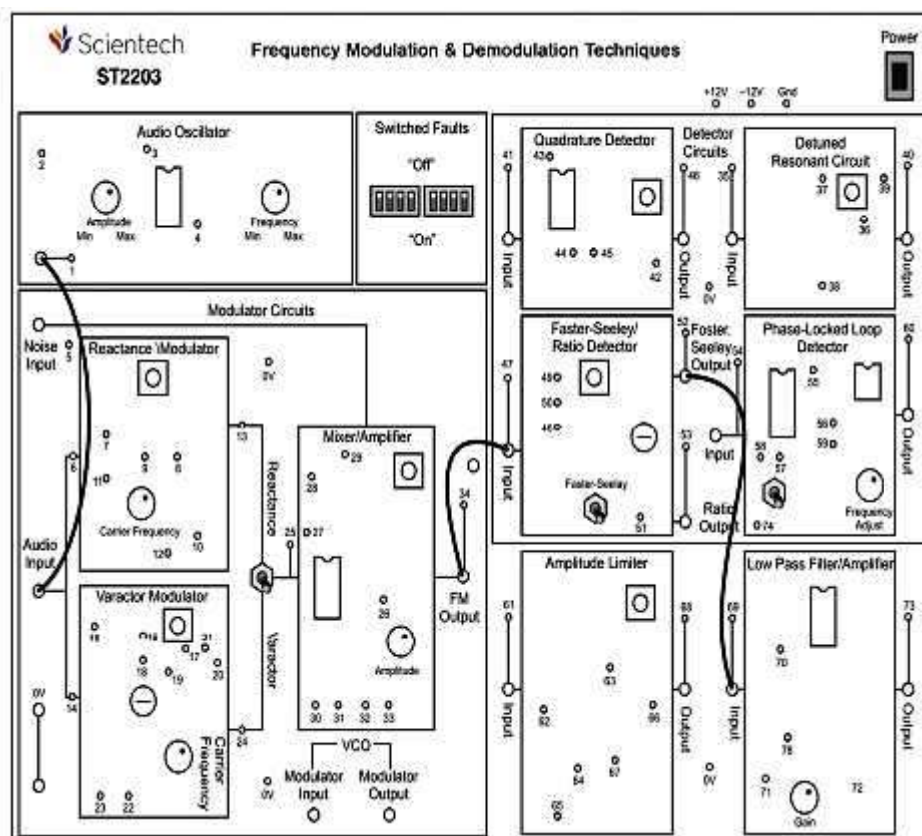

Fig. 4.9
2. Make connection as shown in figure 4.9.